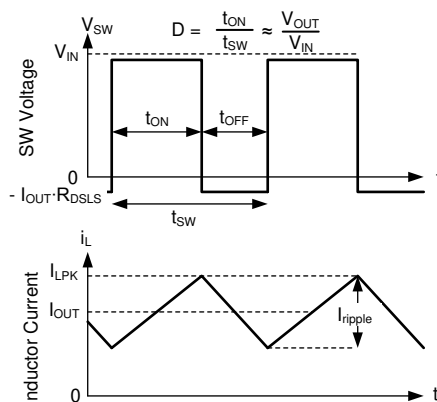

图 24. SW Voltage and Inductor Current Waveforms in Continuous Conduction Mode (CCM)
The following operating description of the LM61460-Q1 refers to the Functional Block Diagram and to the waveforms in 图 24. In CCM, the LM61460-Q1 supplies a regulated output voltage by turning on the internal high-side (HS) and low-side (LS) NMOS switches with varying duty cycle (D). During the HS switch on-time, the SW pin voltage, V_{SW} , swings up to approximately V_{IN} , and the inductor current, i_L , increases with a linear slope. The HS switch is turned off by the control logic. During the HS switch off-time, t_{OFF} , the LS switch is turned on. Inductor current discharges through the LS switch, which forces the V_{SW} to swing below ground by the voltage drop across the LS switch. The converter loop adjusts the duty cycle to maintain a constant output voltage. D is defined by the on-time of the HS switch over the switching period: